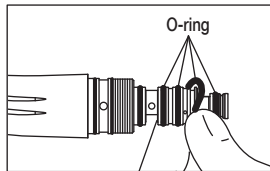

Fig. 16
- 2) Push out the worn O-ring with your thumb. Insert new O-ring in the O-ring groove. (Fig. 16)